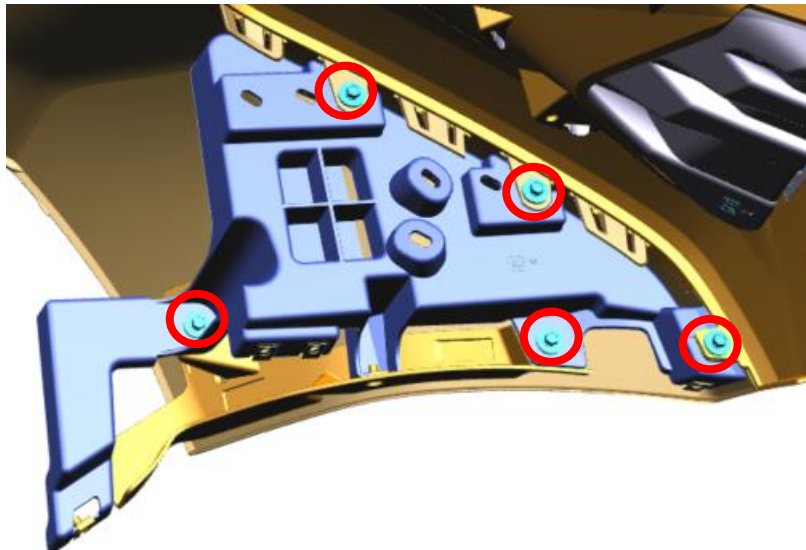

Figure 7 – Passenger Side Plastic Brace
- Remove [5] M4 bolts (M7 Socket) and discard Plastic Brace – 1 per side – Fig. 7